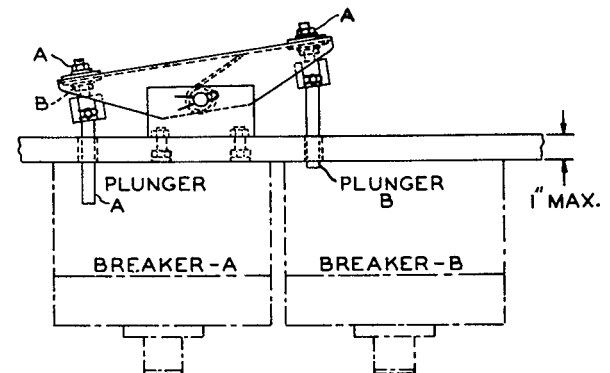

Fig. 4
- Back off nuts "A" and "B" on plunger "A" to last few threads (See Fig. 4).